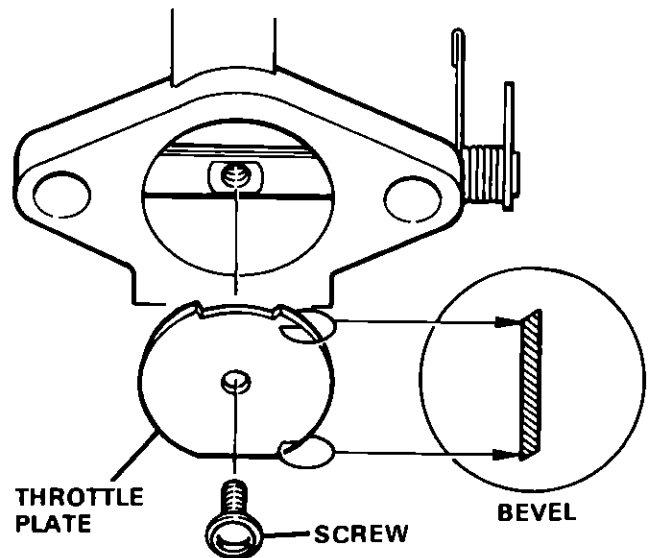

Figure 27. Assembling Throttle Valve to Shaft
- A Place throttle spring on throttle shaft and insert in carburetor body. Figure 27
Throttle plate is beveled and can only be assembled one way. See enlarged section in Figure 27